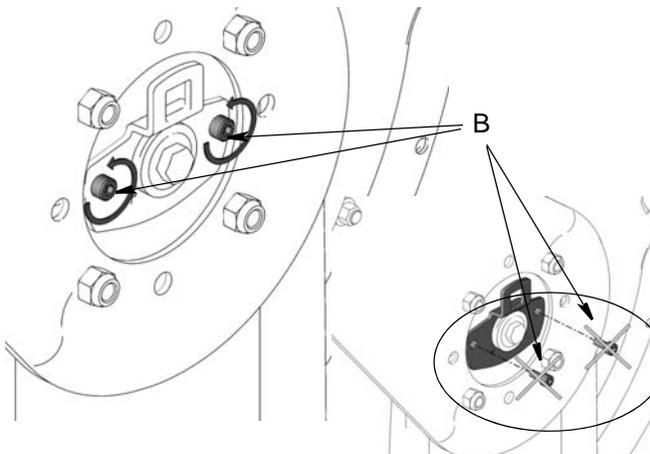

FIG. 20
2. Loosen screws (B) approximately 3 to 5 turns. **Do not remove screws (B) yet** (FIG. 20).